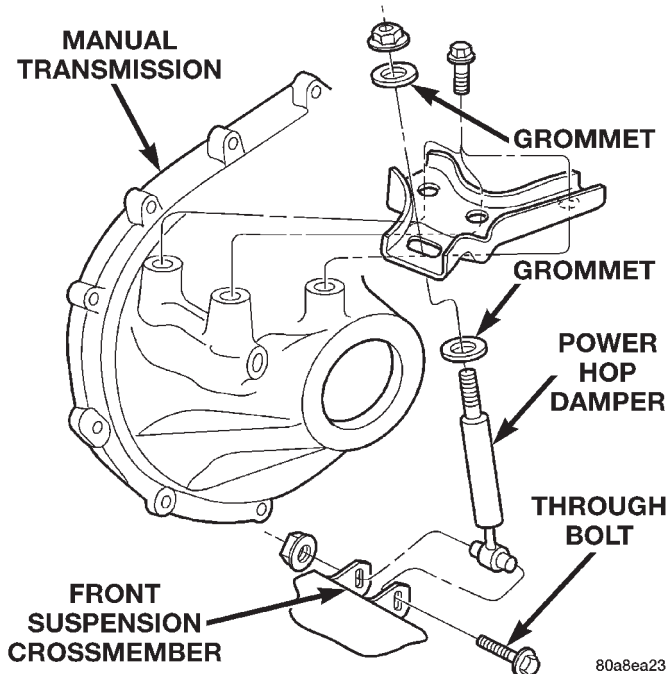

Fig. 13 Power Hop Damper
- (1) Remove the thru-bolt and nut from the front suspension crossmember (Fig. 13).
- (2) Remove the damper nut and grommets. Remove the damper.